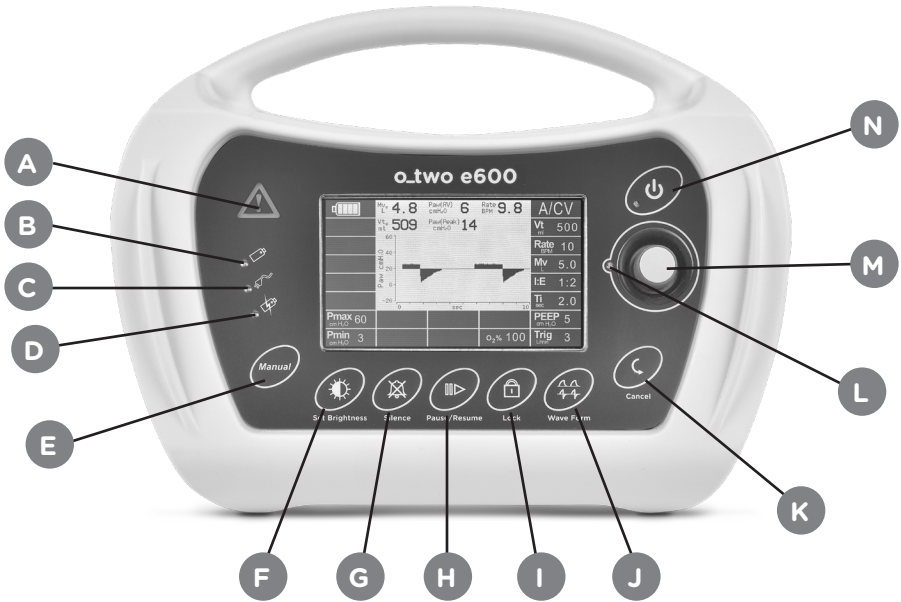

Figure 01
To turn on the ventilator, Press the ON/OFF button (N) in Figure 01 for one second, during that second the associated green LED will start flashing at a high frequency. After 1 second the ventilator will turn on but without ventilation until the appropriate patient size symbol is selected. If the button is pressed and released for less than a second, the ventilator will remain OFF.
The Control Selection Knob (M) (Figure 01) is used to navigate between parameters, change modes, select primary function change when rotated, and to confirm function changes when pressed. Diagram below illustrates path of cursor when Control Selection Knob is rotated clockwise.
1. Press the Lock key (I) (Figure 01). The Lock symbol will be displayed on the screen.
2. To cancel the Lock function, press the Lock key (I) again.
The Alarm Silence key (G) (Figure 01) will silence the audible alarm for 120 seconds. It could be also selected without an active alarm to silence potential alarms. This function is activated or deactivated by pressing the Alarm Silence key once.
Pressing the Waveform selection key (J) (Figure 01) will switch between the pressure and volume ventilation waveforms.
Pressing the Screen Brightness key (F) (Figure 01) will switch between 4 different brightness levels as follows:
The Cancel key (K) (Figure 01) allows the operator to return to the previous settings if the last unconfirmed changes in settings are not required.
During activation of the Pause/Resume key (H) (Figure 01), the ventilator will stop ventilating with all un-locked keys kept active except for the Manual/Inspiratory Hold key (E).
1. Press the Pause/Resume key (H) (Figure 01). The Pause symbol will flash on the left of the screen along with the confirmation symbol  as well as the Confirmation indicator (L) (Figure 01) to guide users to activate the pause function by pressing the Control Selection Knob (M) (Figure 01).
2. The symbol will flash for 10 seconds and then disappear if the Control Selection Knob (M) (Figure 01) is not selected. Users can also press the Cancel key (K) (Figure 01) to quit this selection before the 10 seconds.
- During Pause, there will be an audible alarm associated with a flashing yellow Warning indicator (A) (Figure 01) every 15 seconds. Users can press the Alarm Silence key to disable the audible alarm for 2 minutes but the yellow Warning indicator will continue flashing every 15 seconds.
- To cancel the Pause function, press Pause/Resume key (H) (Figure 01) again. The “Resume” symbol  will flash on the screen along with the confirmation symbol  and the Confirmation indicator (L) (Figure 01) to guide users to resume ventilation by pressing the Control Selection Knob (M) (Figure 01).
During the exhalation phase, if the Manual/Inspiratory Hold key (E) (Figure 01) is pressed, a mandatory breath will be initiated and either the flow rate or set pressure control parameter will be delivered as long as the Manual/Inspiratory Hold key remains pressed or until the I-time setting is achieved.